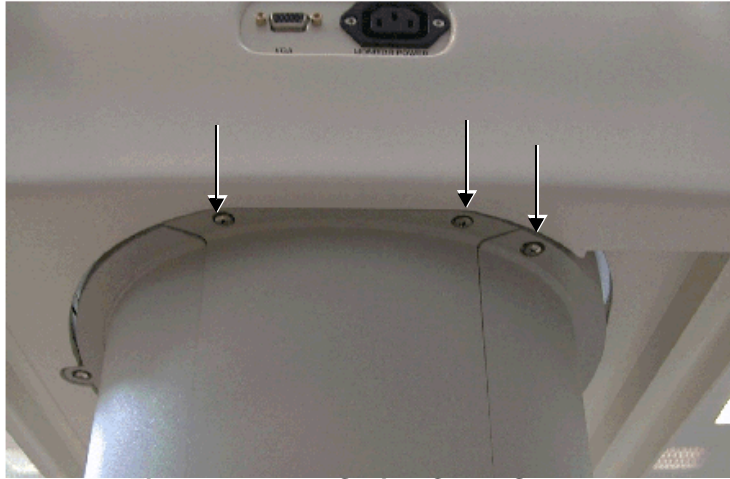

Figure 8-14 Gas Spring Cover Screws
- 6) Return the rear section of the gas spring cover to its original position and fasten it with the two screws shown in Figure 8-14 "Gas Spring Cover Screws" on page 8-12.
- 7) Lift the front section of the gas spring cover from the top cover collar and fasten it with its three screws, as shown in Figure 8-14 "Gas Spring Cover Screws" on page 8-12.